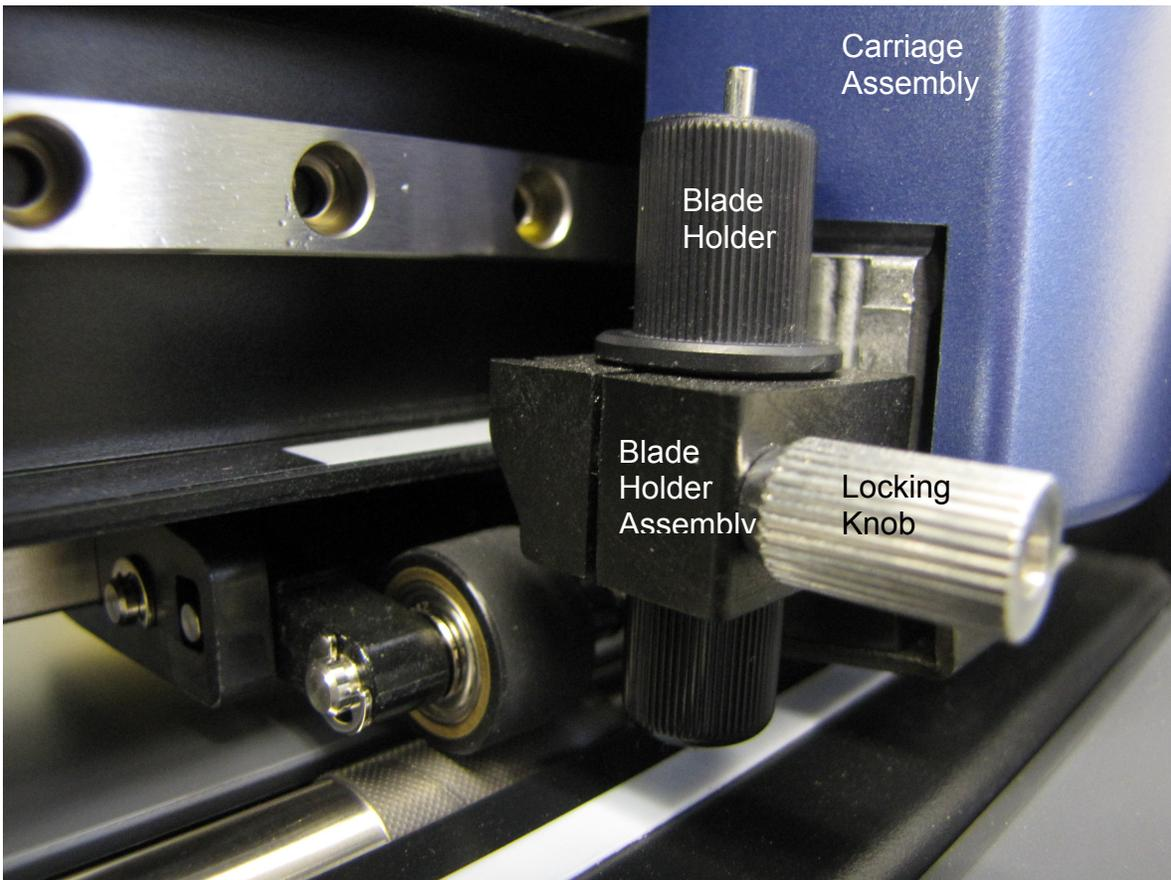

Figure 2: Carriage Assembly
1. Turn the **LOCKING KNOB COUNTER-CLOCKWISE** on the **BLADE HOLDER ASSEMBLY**, to remove the **BLADE HOLDER** (Figure 2).
2. While rotating the **BLADE HOLDER COUNTER-CLOCKWISE**, gently pull up until the **BLADE HOLDER** pops out of the **BLADE HOLDER ASSEMBLY** (Figure 2).